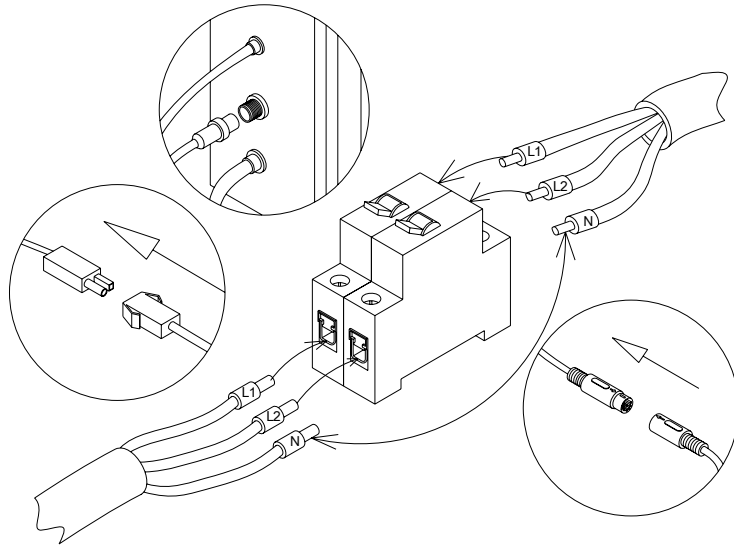

Fig. 17
20. Connect the steam generator circuit, according to the wiring diagram – Fig 17. Connect power cable to the power supply box. Wires marked L1 and L2 are HOT wires, N – neutral. Connect yellow wire from the steam generator to the ground.